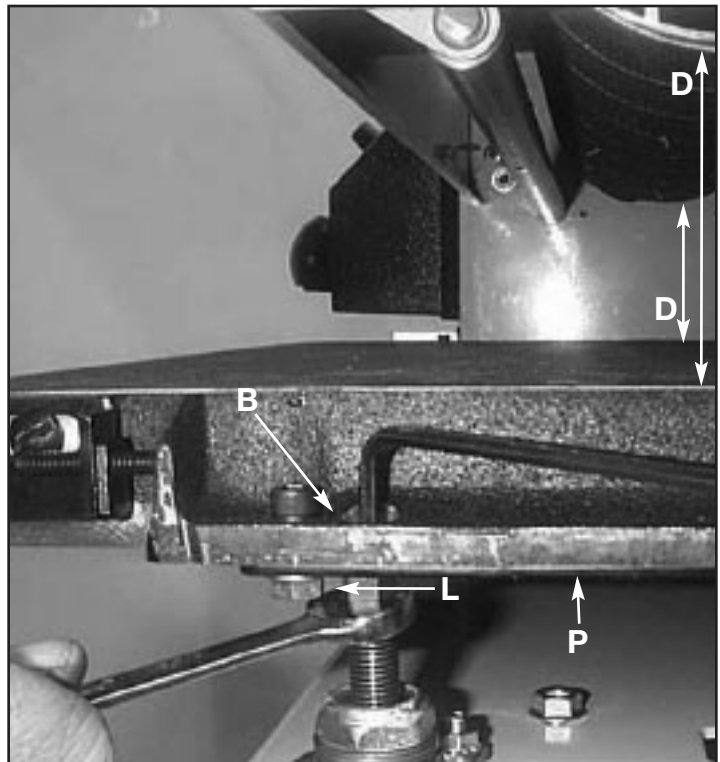
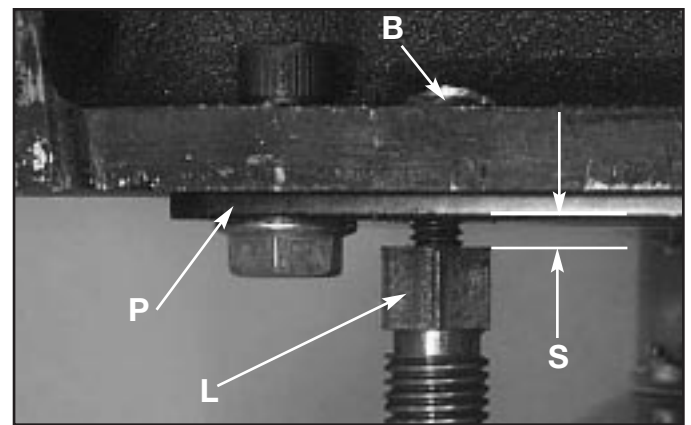
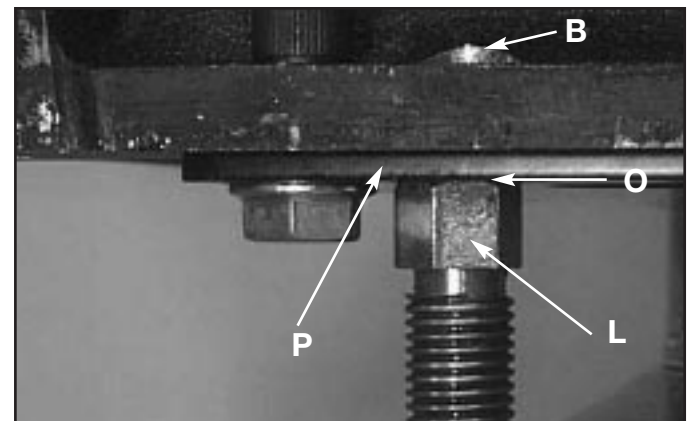

Fig. 38
Fig. 39
Fig. 40
1. The table support plate must be mounted in a flat plane and parallel (D) Fig. 38 to the drum. Check this with the table mounted to the support plate. Use a 3/16" hex wrench and ½" open end wrench to loosen the four hex screws that attach the support plate to the elevating screws. Place a block of wood (W) Fig. 37, metal, etc. approx. ¾" wide x 2" to 3" tall, under the table support plate, on the unit base next to one of the elevation screws. Turn the elevating screw up or down until the support plate barely clears the block. **REPEAT** the clearance check at each of the other three elevation screws. They should be within 1/64" of each other [See (O) Fig. 40].
3. With a ½" wrench and a 3/16" hex wrench, loosen the front right socket head screw (B) Fig. 38 four full turns[See (S) Fig. 39]. Turn the elevating screw clockwise until it no longer touches the plate (P) Fig. 39. Then turn the same screw counterclockwise until it just touches the support plate without raising it (O) Fig. 40. Hold the elevating screw(L) Fig. 38 with the ½" wrench to keep it